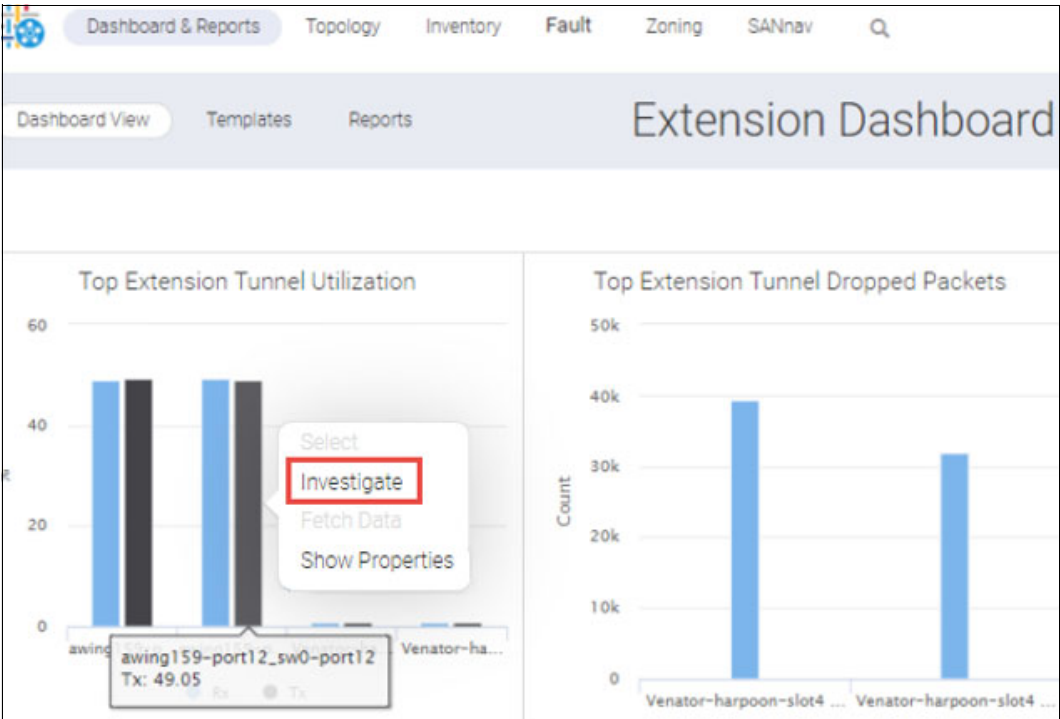

Figure 9-23 Tunnel or circuit utilization
3. If you want to examine tunnel or circuit utilization, click a bar in one of the utilization widgets, and then select **Investigate** from the list. See Figure 9-23 on page 162.